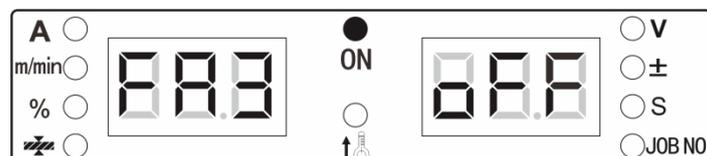

Fig. 4-4 FA3 display interface
1. Enter the internal menu and find **FA3** by **turning the knob**. The digital meter is as displayed in Fig. 4-4.